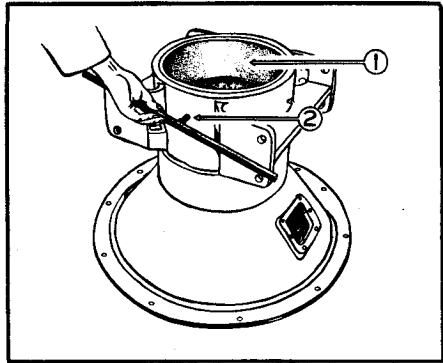
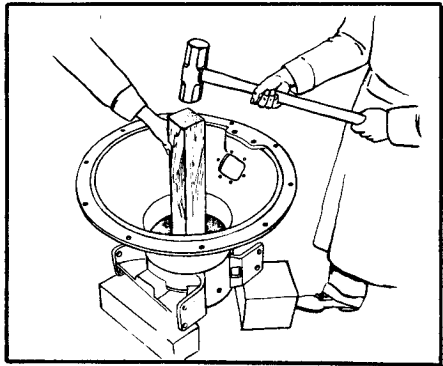

Figure 44 Securing Column Bushing
Figure 45 Removing Column Bushing
Hoist out the mast and unbolt for removal of the worm gear. To remove the bushing (1) in the upper housing, first remove dowel pin (2), Figure 44, and drive or press out, using a piece of 1" thick steel plate 12½" in diameter. See Figure 45.
until it is flush with bolting surface as in Figure 44.